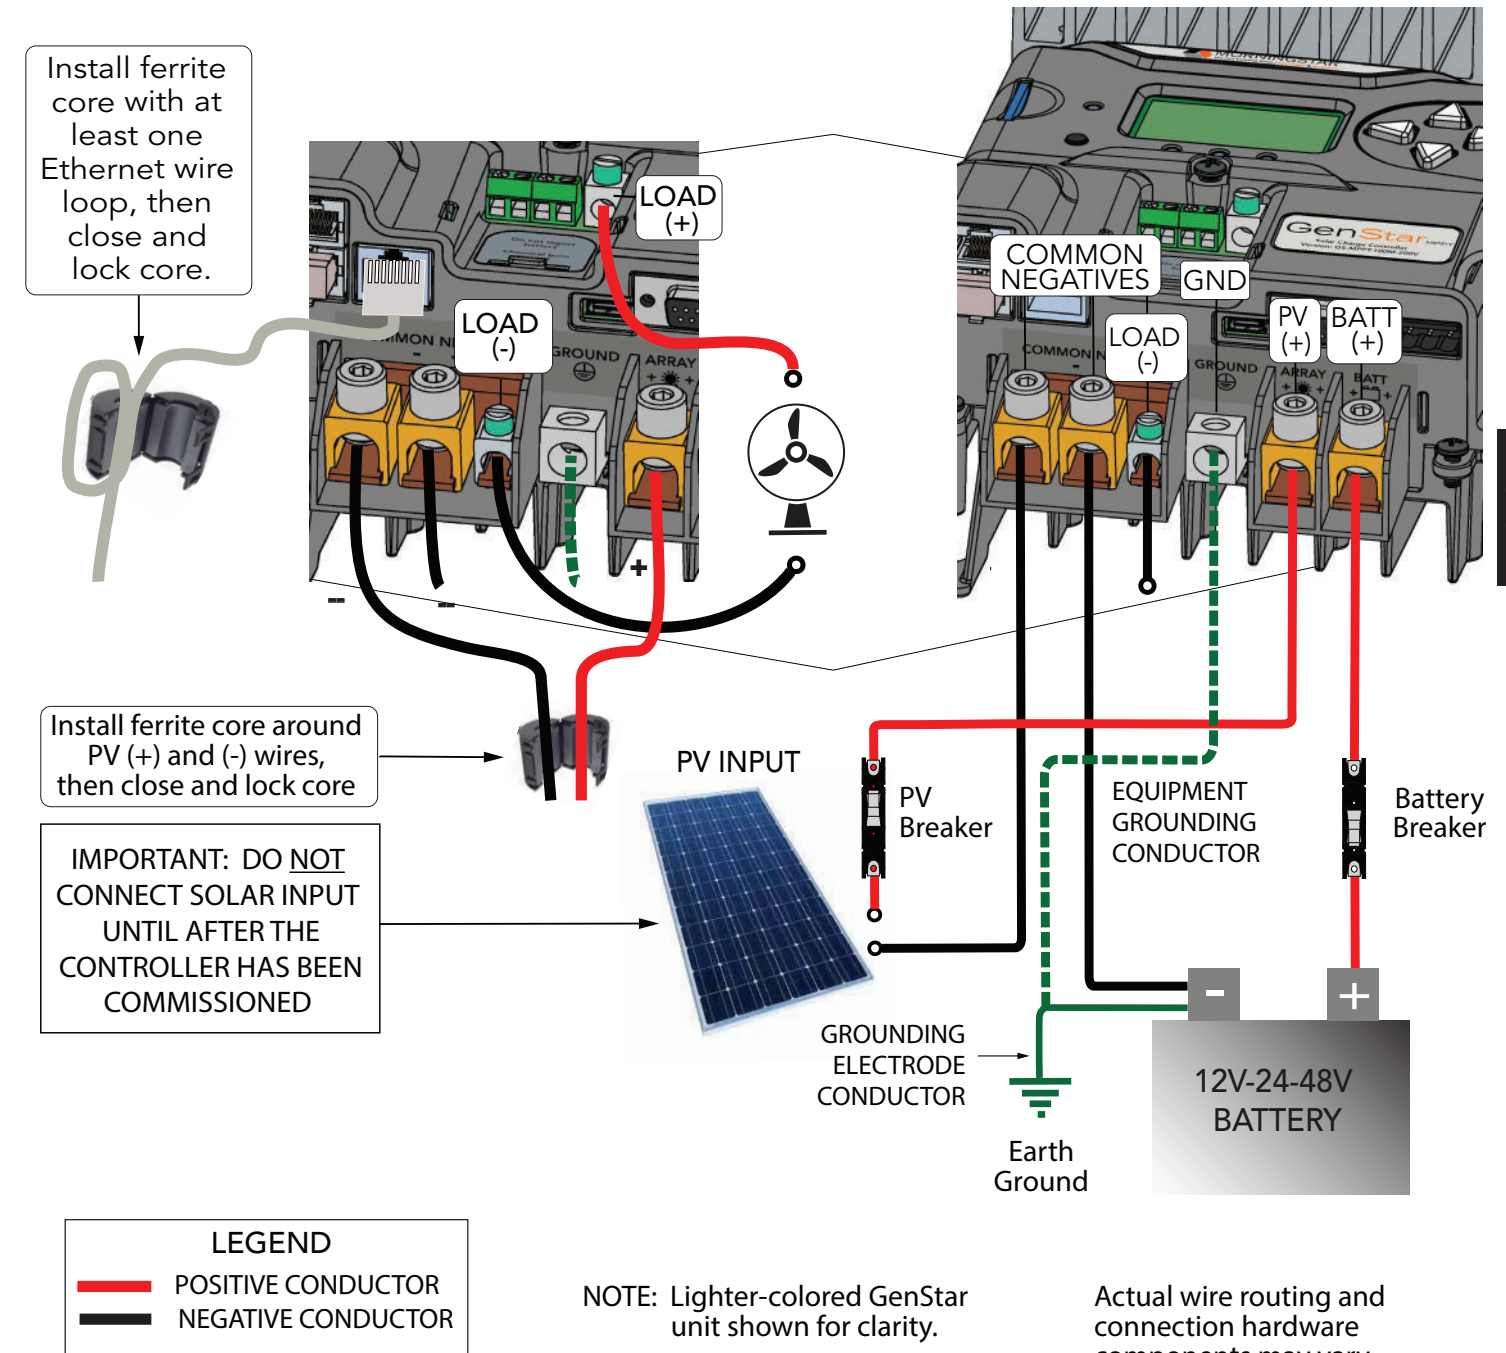

Figure 3-4. GenStar MPPT Power Wiring
3.4.3 Grounding and Ground Fault Interruption - refer to Figure 3-4 above
3.4.4 BATTERY CONNECTIONS - refer to Figure 3-4 above
3.4.5 SOLAR CONNECTIONS - refer to Figure 3-4 above
STEP 4: Fit and connect a negative wire between the GenStar PV (-) input terminal and the PV (-) busbar or combiner terminal. **DO NOT CONNECT THE ARRAY STRING (-) WIRE(S) TO THE COMBINER BOX AT THIS TIME.** This can be achieved by not connecting the PV (-) MC-4 connectors or the PV (-) wire(s) to the transition box, combiner box or the PV (-) disconnect.
3.4.6 LOAD CONNECTIONS - refer to Figure 3-4 above